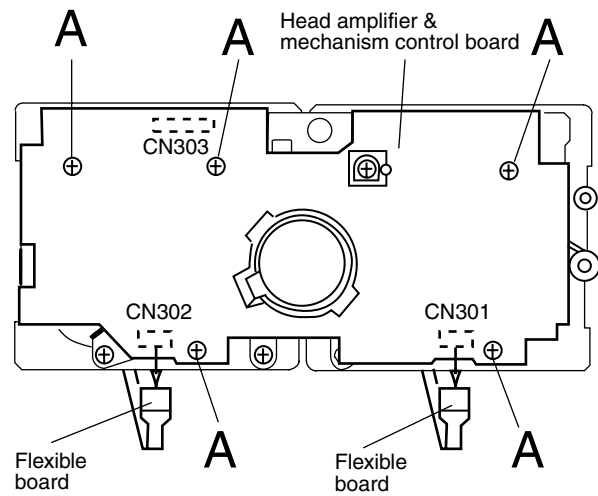

Fig.4
■ **Removing the head amp. and mechanism control board (See Fig. 4)**